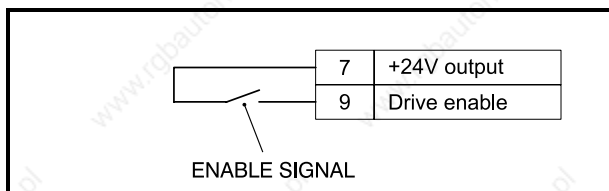

Figure 7.2 Keypad basic connections
2. Make the signal connections as shown in Figure 7.2.